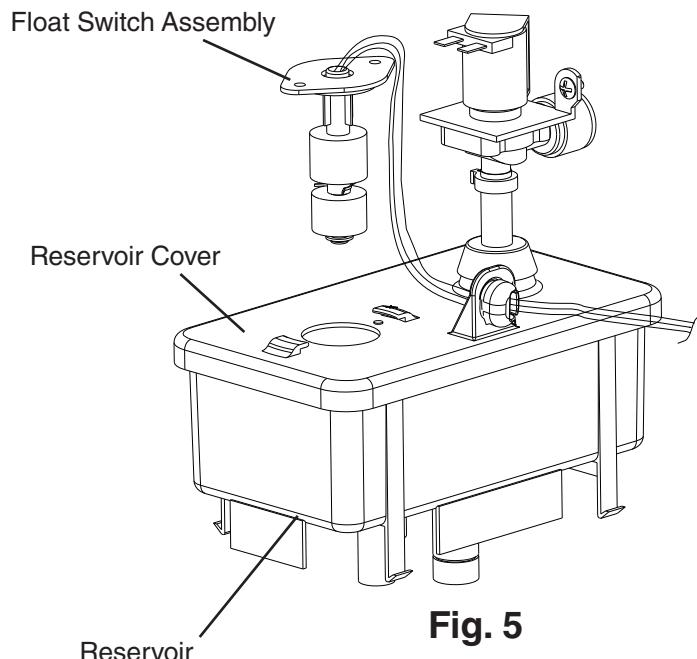

Fig. 5
- 4) Disconnect the FS molex plug from the control box and check continuity across FS wires. (BK) to (R) for UFS and (BK) to (BU) for LFS. See Fig. 5. With the water reservoir empty, FS switches are open. If open, continue to step 5. If closed, follow the steps in "III.B.5.b) Float Switch Cleaning." After cleaning the floats, check them again. Replace if necessary.
- 8) Disconnect the FS molex plug from the control box and check continuity across FS wires. (BK) to (R) for UFS and (BK) to (BU) for LFS. With the water reservoir full, FS switches are closed. If open, follow the steps in "III.B.5.b) Float Switch Cleaning." After cleaning the floats, check them again. Replace if necessary.
- 3) Remove the float switch assembly from the reservoir cover. See Fig. 5.